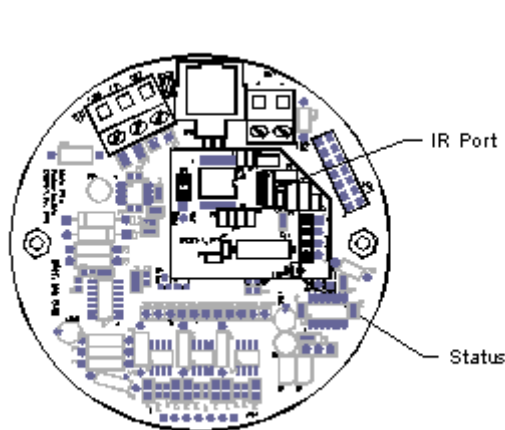

Figure 3 - Option -X, no display
1. Local Display Configuration — The Model 210 instrument with display option offers a user interface comprised of a 2x16 character LCD display, a status LED, and two proximity sensors. The LCD display can be used to display flow, temperature or totalization, and to execute certain instrument operations. To access choices using the display and proximity sensors, hold your finger over the SCROLL button. The display will then scroll through a list of choices. Once the desired function is displayed, quickly move your finger over the SELECT button to select the displayed function. Any time either button is pressed, the status LED (See Figures 3 and 4) will change from a short continuous burst to a steady single pulse.